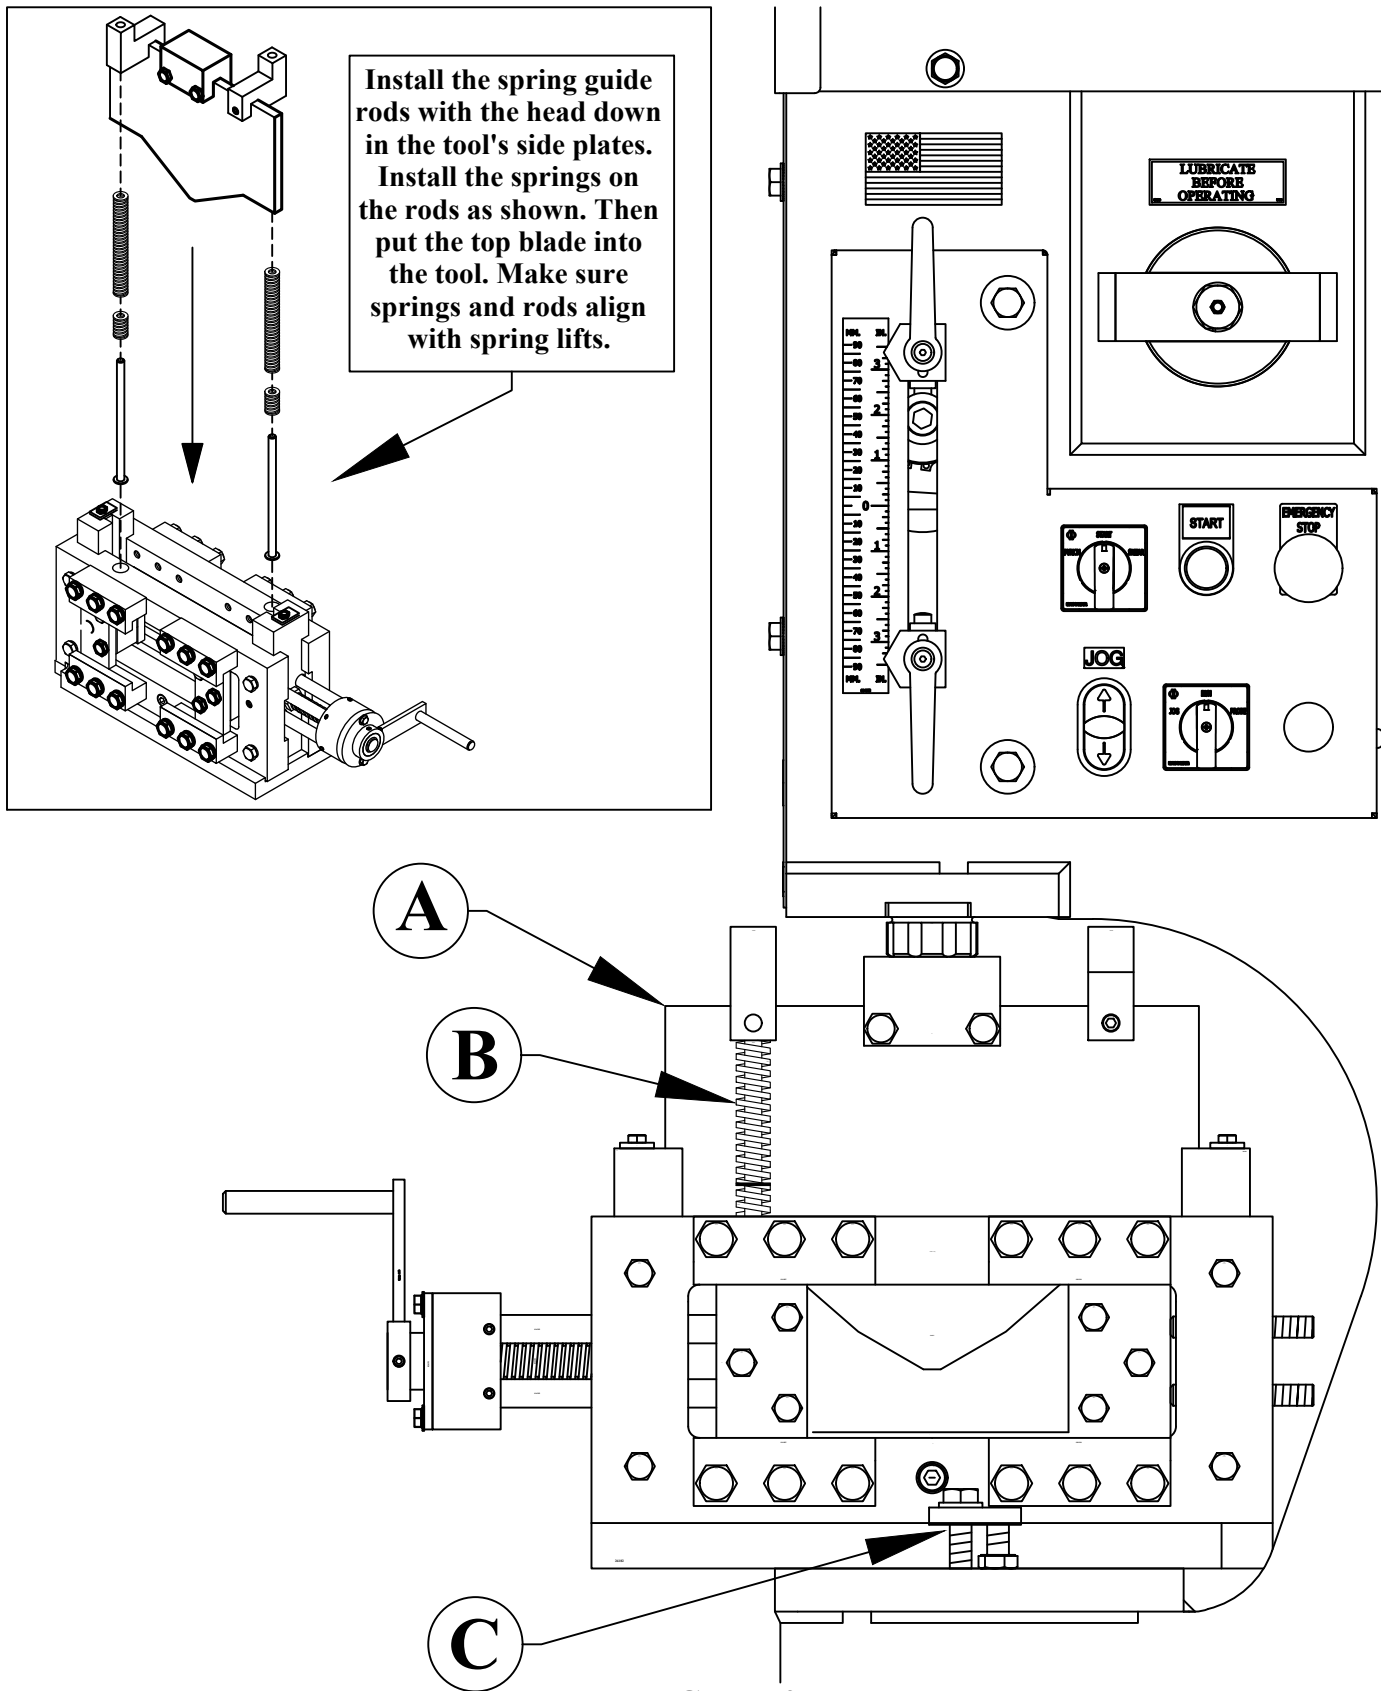

FIGURE 25
2. Before installing the tool on the machine, remove the top blade (A) and install the spring guide rods (B) and springs. (REFER TO THE INSERT IN FIGURE 25.) Install the spring guide rods with the head down in the tool's side plate. Then, install the springs on the rods.
3. Replace the top blade (A).
5. Because of clearances, it is necessary to mount the finger clamps (C) to the punch bed and start the bolts before installing the tool.